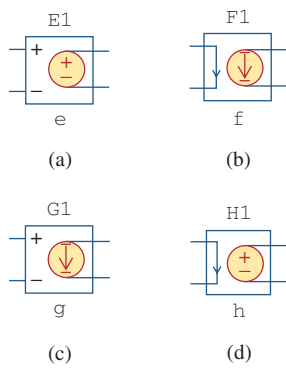

Figure 13
2. Dependent sources are found in the Parts library. Obtain them by selecting **Draw/Get New Part** and typing the part name. Figure 13 shows the part name for each type, with the gain. *E* is a voltage-controlled voltage source with gain *e*; *F* is a current-controlled current source with gain *f*; *G* is a voltage-controlled current source with a transconductance gain *g*; and *H* is a current-controlled voltage source with transresistance gain *h*.